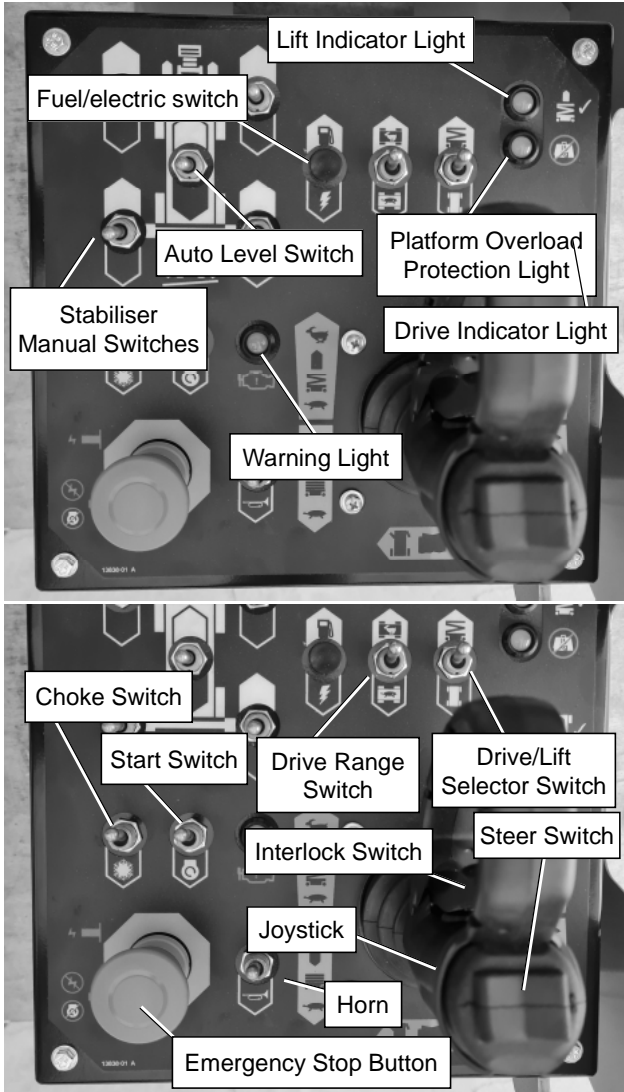

Figure 8.2 – Upper Controls
5. From the upper controls, pull the emergency stop button outward (refer to Figure 8.2).
1. Place the drive/lift selector switch (refer to Figure 8.2) in the lift position.
1. Place the drive/lift selector switch (refer to Figure 8.2) in the drive position.